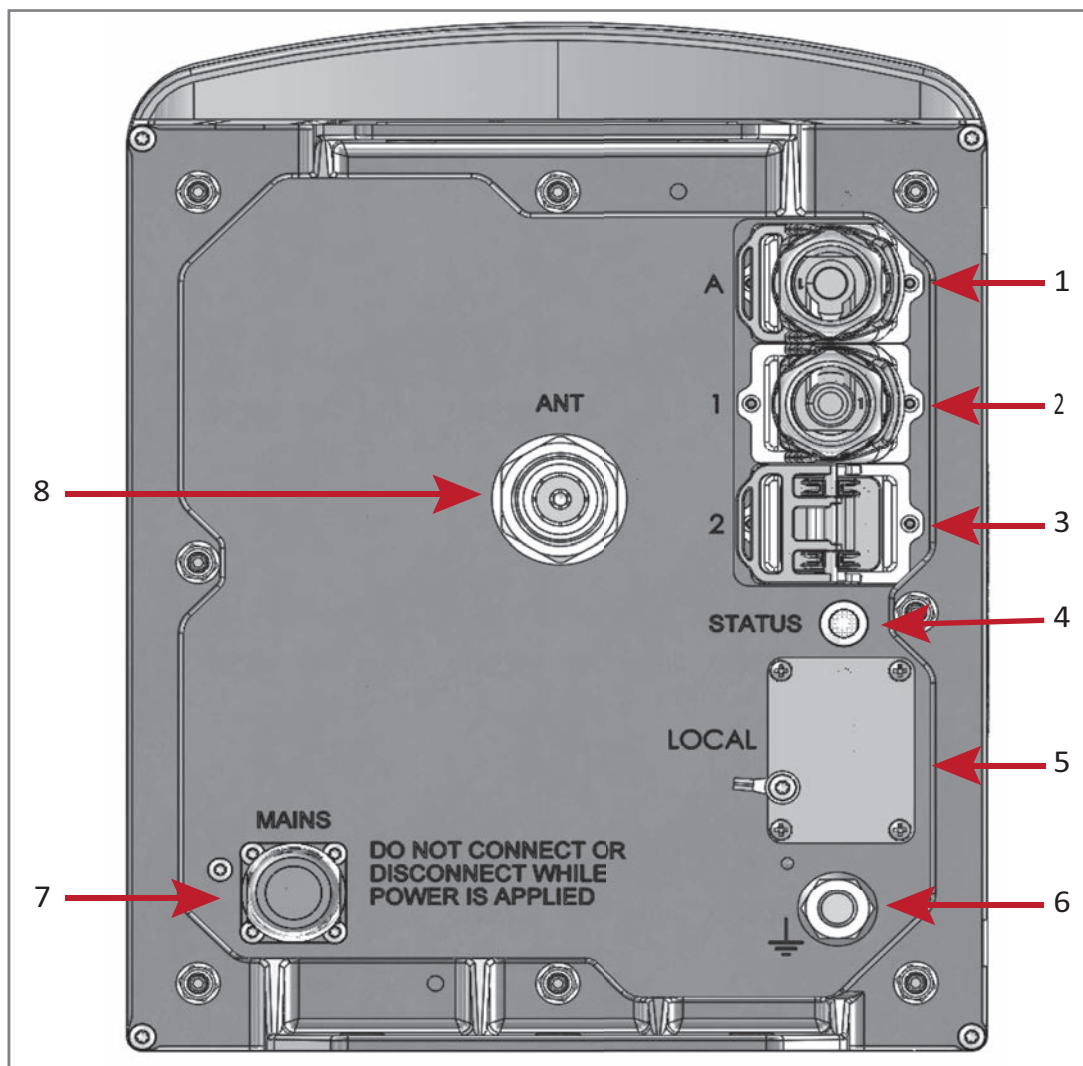
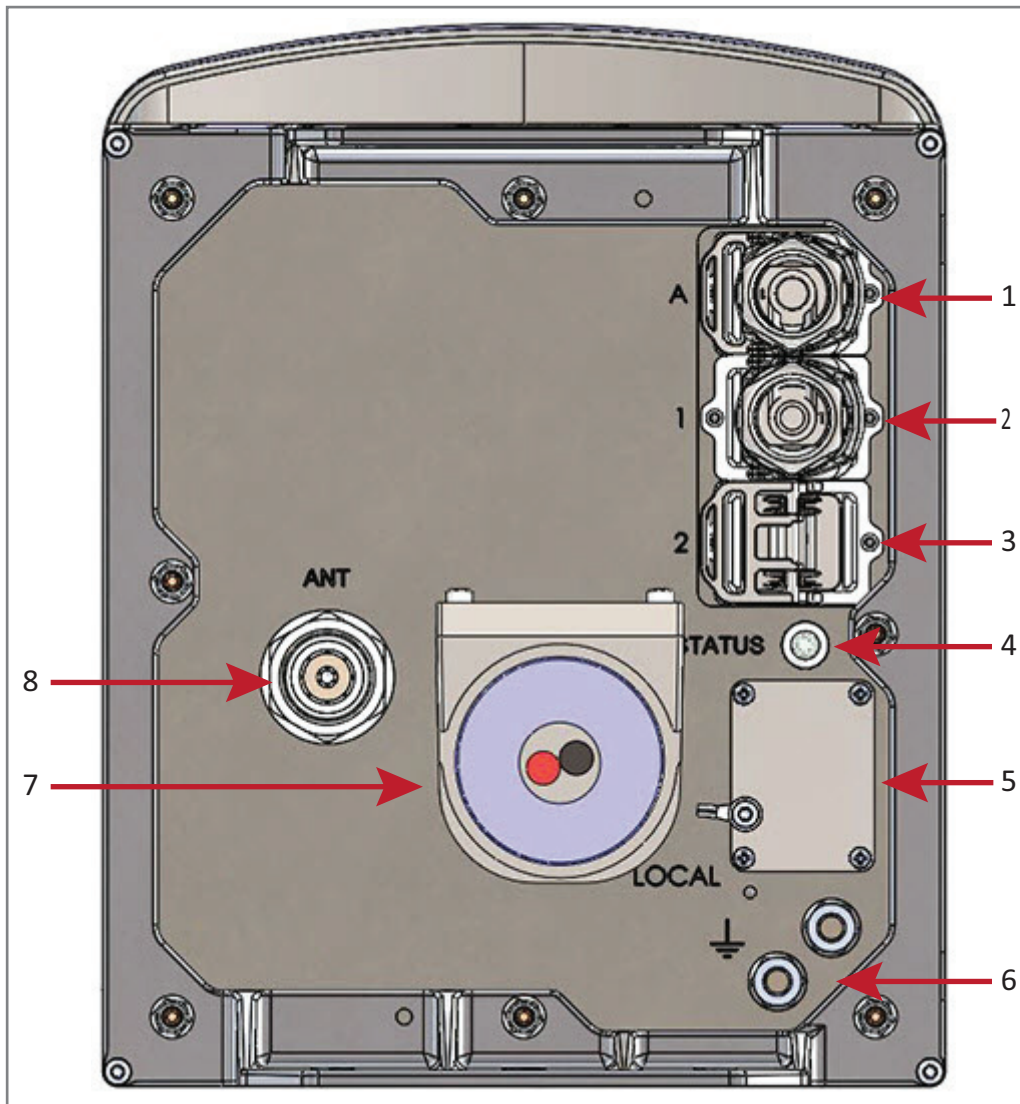
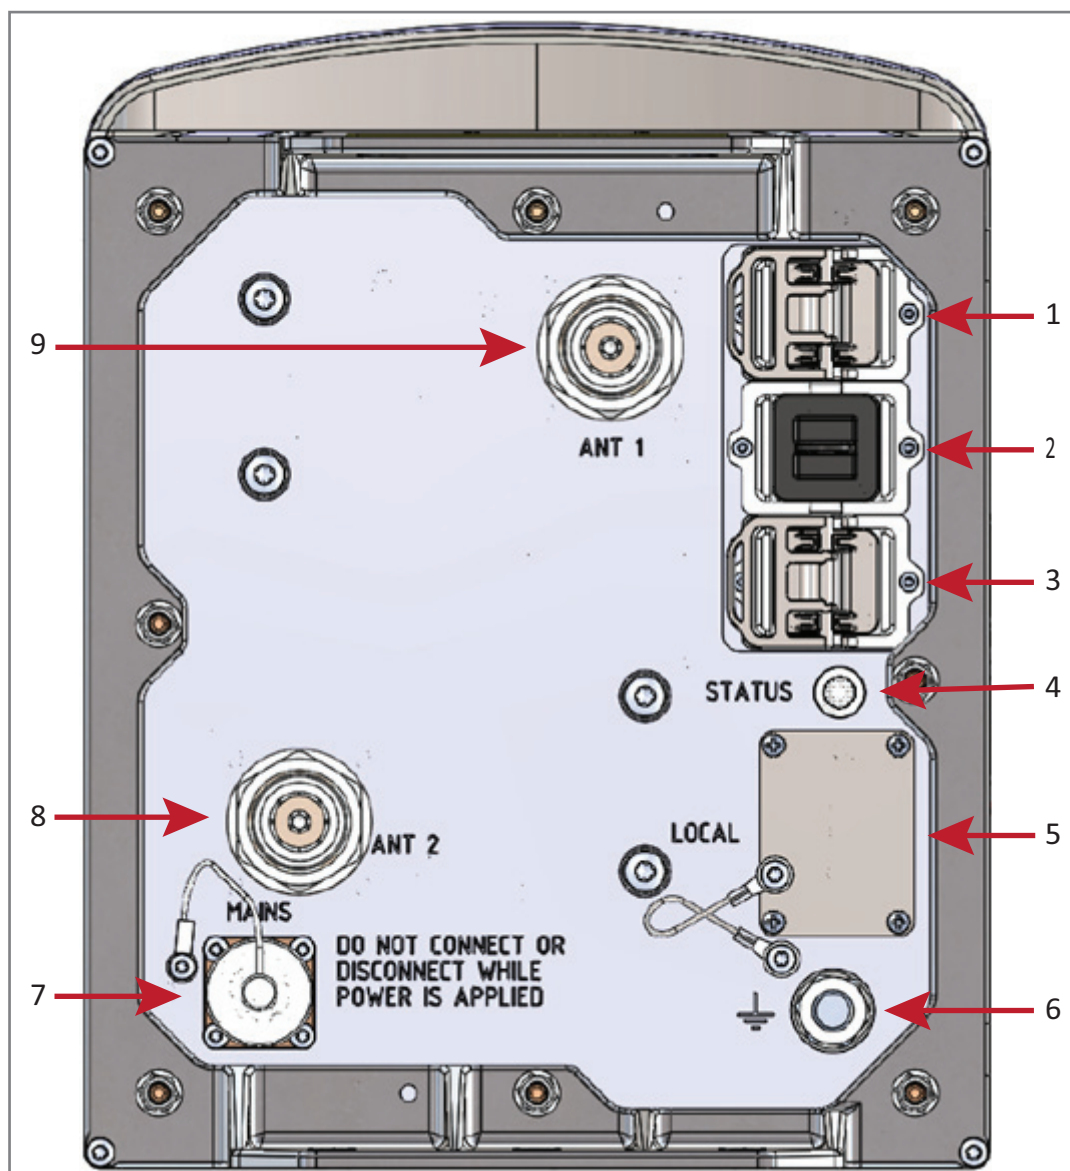
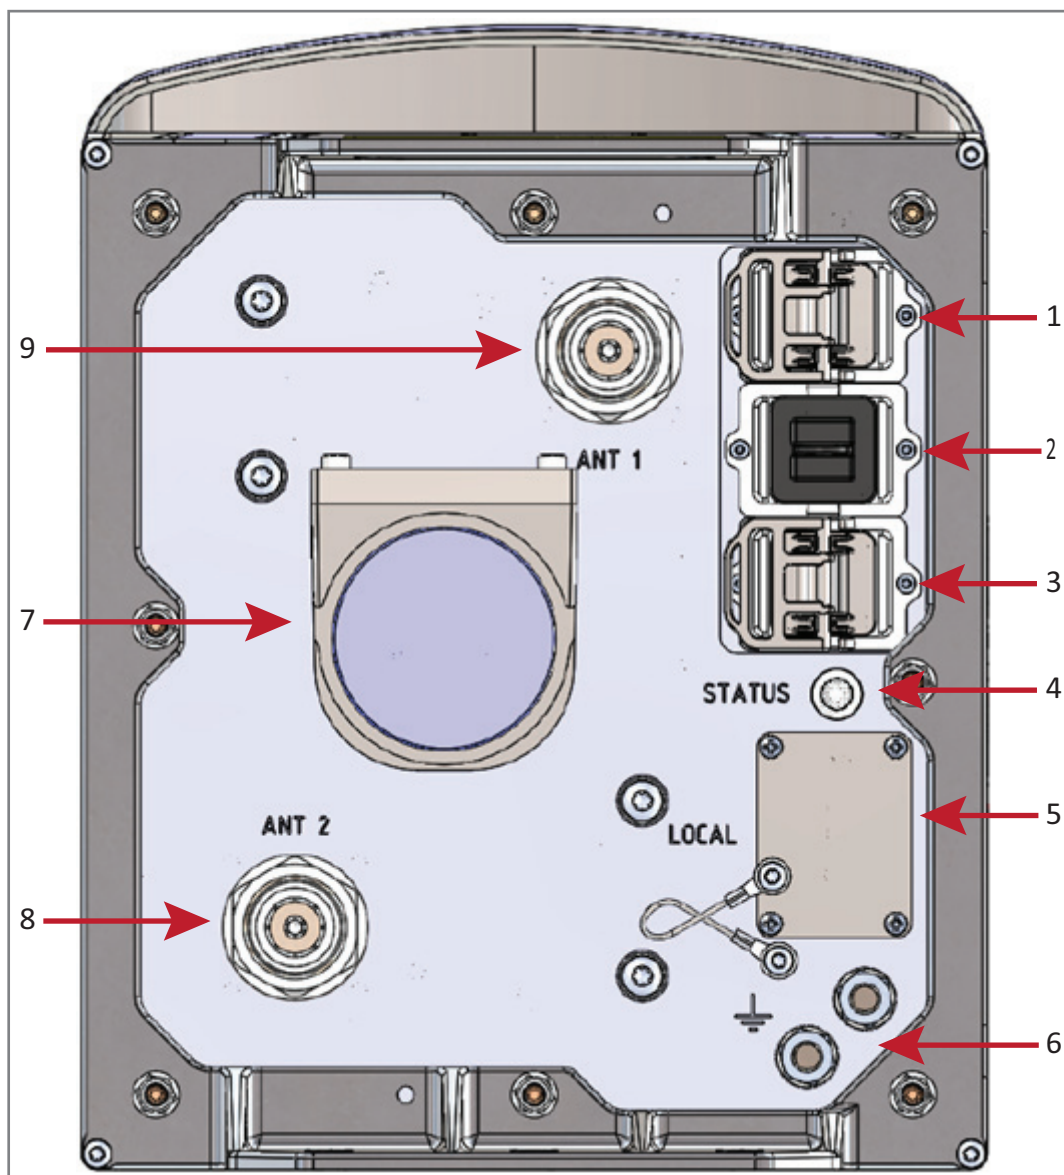

Figure 2. Location of Connectors and LED on AC Version with One Antenna Connector
Figure 3. Location of Connectors and Status LED on DC Version with One Antenna Connector
Figure 4. Location of Connectors and Status LED on AC Version with Two Antenna Connectors
Figure 5. Location of Connectors and Status LED on DC Version with Two Antenna Connectors
- Figure 2 shows the connectors on an AC version of the CAP H that has one antenna connector.
- Table 2 on page 7 maps the callouts in Figure 2 and Figure 3 on page 8 and describes the connectors and STATUS LED.
- Figure 3 on page 8 shows the connectors on a DC version of the CAP H that has one antenna connector.
The “REF #” column in Table 2 refers to the callouts in Figure 2 on page 6 and Figure 3 on page 8.
- Figure 4 shows the connectors on an AC version with two antenna connectors.
- Table 3 on page 10 maps the callouts in Figure 4 and Figure 5 on page 11 and describes the connectors and STATUS LED.
- Figure 5 on page 11 shows the connectors on a DC version with two antenna connectors.
The "REF #" column in Table 2 refers to the callouts in Figure 2 on page 6 and Figure 5 on page 11.